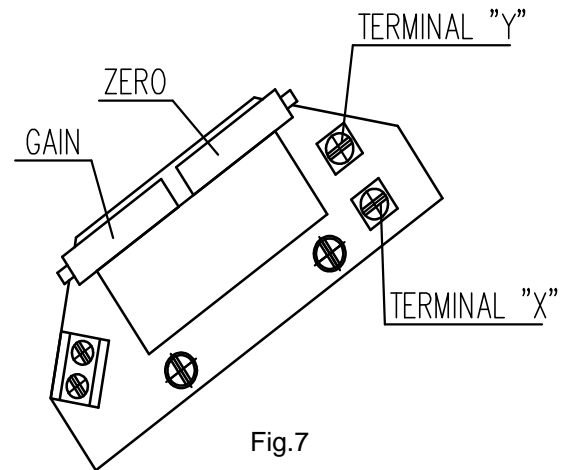

Fig.7
- Adjust the resistive transmitter according to the previous chapter. The resistance is to be metered on the terminals X-Y (Fig. 7, 7a). The used transmitter resistance is 100 W.
- Adjust the resistive transmitter according to the previous chapter. The resistance is to be metered on the terminals X-Y (Fig. 7).
- Turn the adjusting trimmer ZERO (Fig. 7) to adjust the output current signal rate measured on the terminals 81-82 to 4mA.
- Turn the adjusting trimmer GAIN (Fig. 7) to adjust the output current signal rate measured on the terminals 81-82 to 20mA.